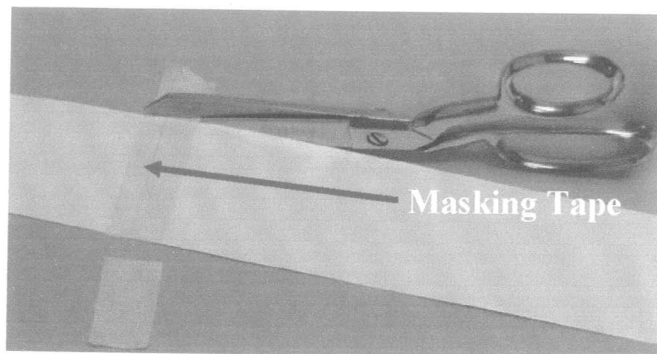

Fig. 3 – Trimming splice joint
6. Trim tape at the edge of the material (see Fig. 3).